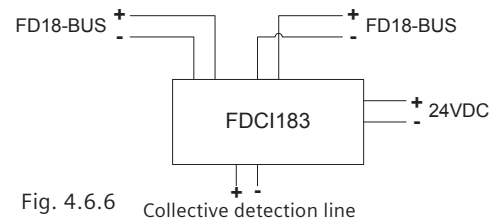
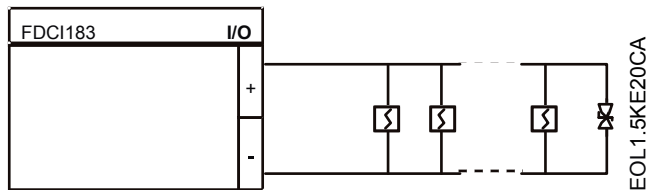
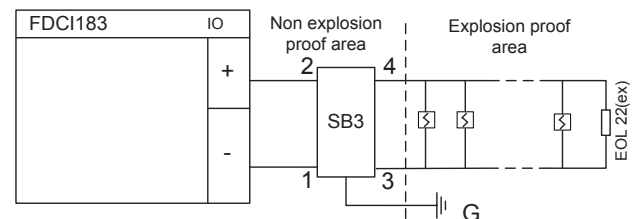

Fig. 4.6.6
Fig. 4.6.7 Detection line connection
Fig. 4.6.8 Detector line with safety barrier
1. Connect the cables to the terminals according to the connection diagram (Fig. 4.6.6, Fig. 4.6.7, Fig. 4.6.8).
2. Connect the line terminators (EOL). These must be connected to the end of the line (Fig. 4.6.7 /Fig. 4.6.8).